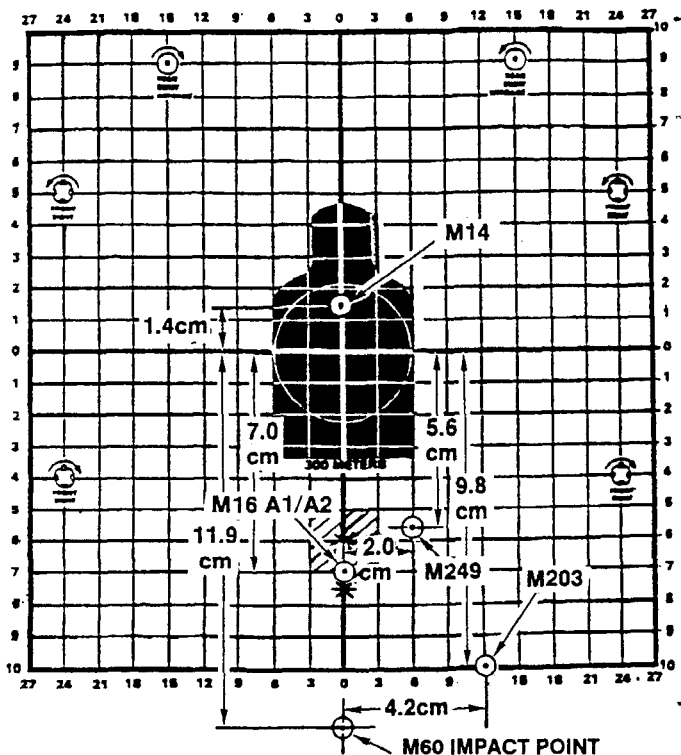

Figure 2-30. Rounds Impact Points For M16A1/A2, M14, M60, M249 and M203 Weapons.
- a. Procedures for zeroing M16A1/A2, M14, M60, M249, and M203 weapons (fig. 2-30).
- (1) Make sure the appropriate reticle for the weapon to be zeroed is installed in the sight.
- (2) Select either a M16A1 or M16A2 25 meter zeroing target.
- (3) Mark the selected target with the appropriate impact point for the weapon to be zeroed (table 2-3).
- (4) Place the selected target at a range of 25 meters.